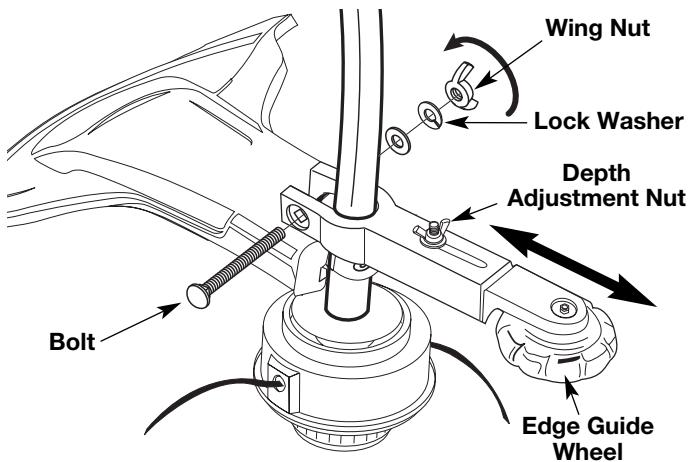

Fig. 5
- Push edge guide wheel onto the shaft just above the cutting attachment shield (Fig. 5). Some force may be required. The depth adjustment nut must be on top.
- Adjust the edging depth by loosening the depth adjustment nut. Then move the guide wheel along the path shown by the thick arrow (Fig. 5) until the wheel reaches the desired position and then tighten securely.